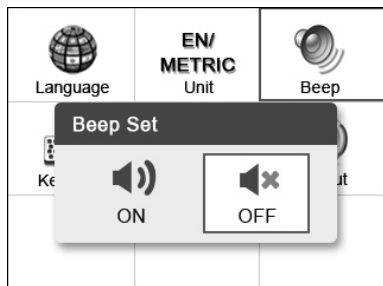

Figure 3.5
- 2) From **Beep Set** menu, use the **LEFT/RIGHT** scroll button to select **ON** or **OFF** to turn on/off the beep. (Figure 3.5)